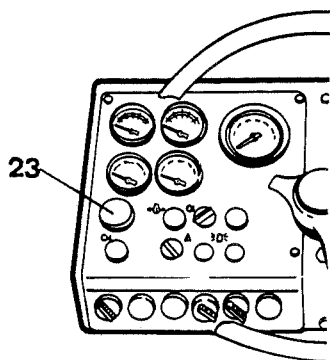

Fig 6 Instrument panel
IN AN EMERGENCY, DEPRESS THE EMERGENCY STOP CONTROL (22) (SEE FIG 6).